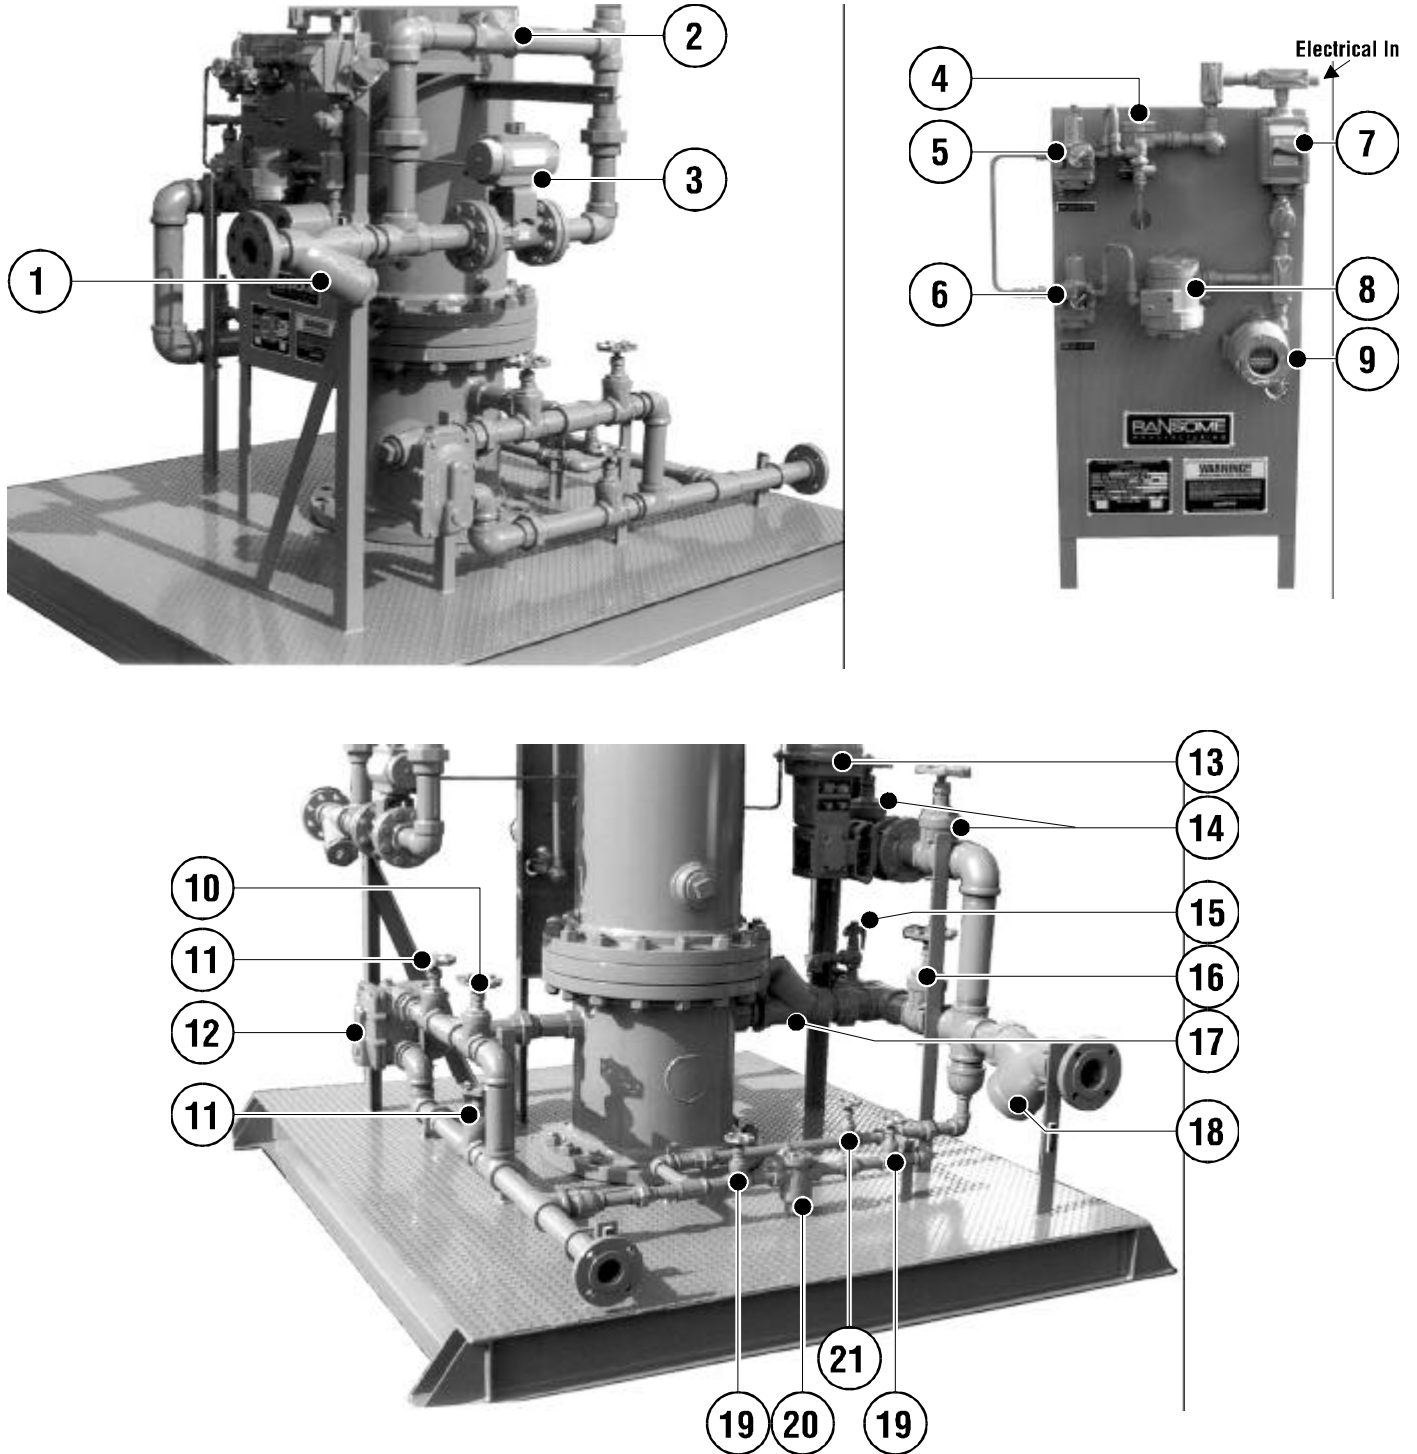

Figure 2-3 - Typical VS Series Vaporizer System
2.05 Figure 2-3 illustrates a typical VS Series Vaporizer system and is provided with key number callouts for all the major system elements and controls.